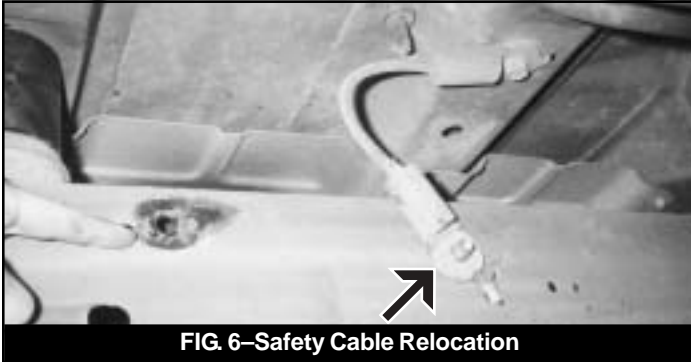

FIG. 6—Safety Cable Relocation
- On the frame, about 8" forward of the original mounting hole is an existing hole (on both frame rails) where the safety cable can be relocated (Fig. 6).